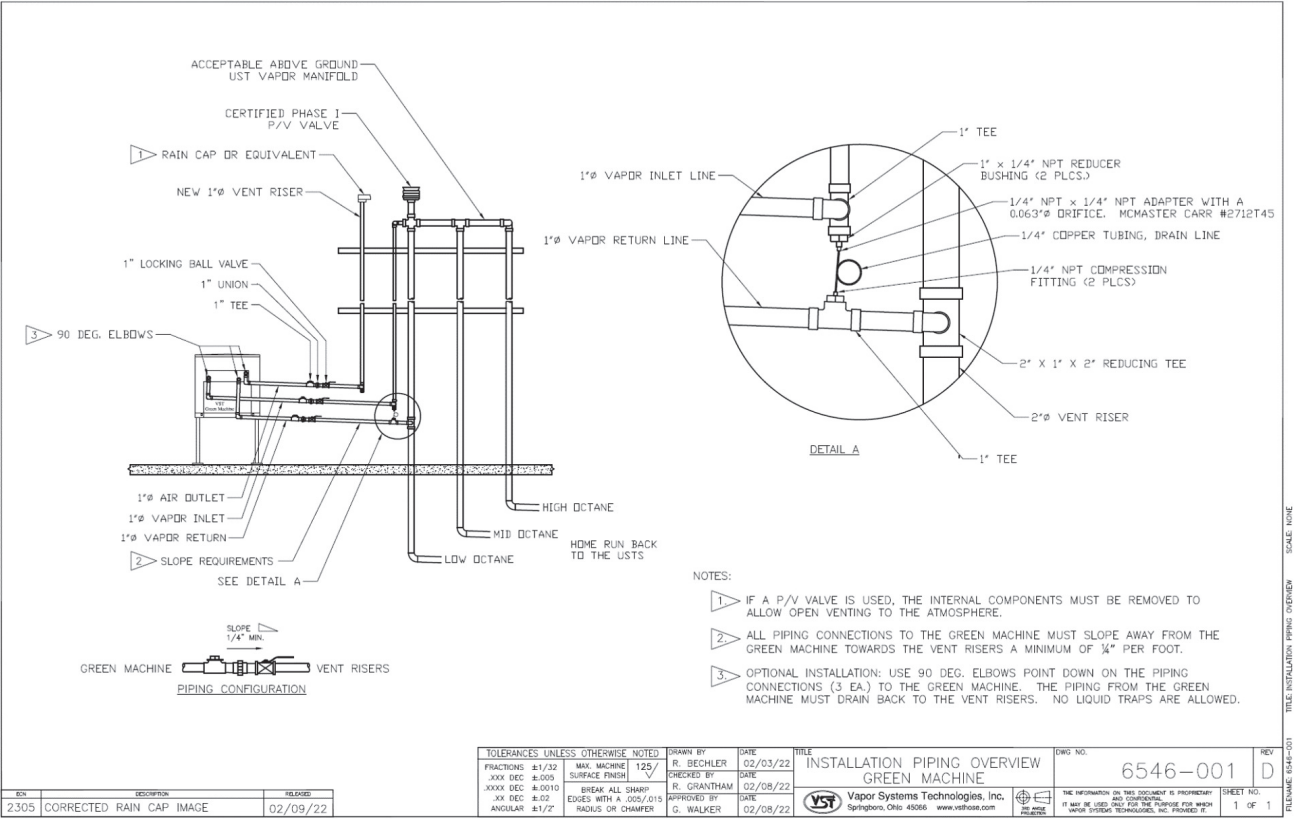

Figure 9-25: Vapor Piping Overview
1. At the GREEN MACHINE, remove the locks from the three ball valves, close the three valves, and remove a cap from one of the tees. (Only one open tee is required for this test.) **See Figure 9-25.**
See Figures 9-25.